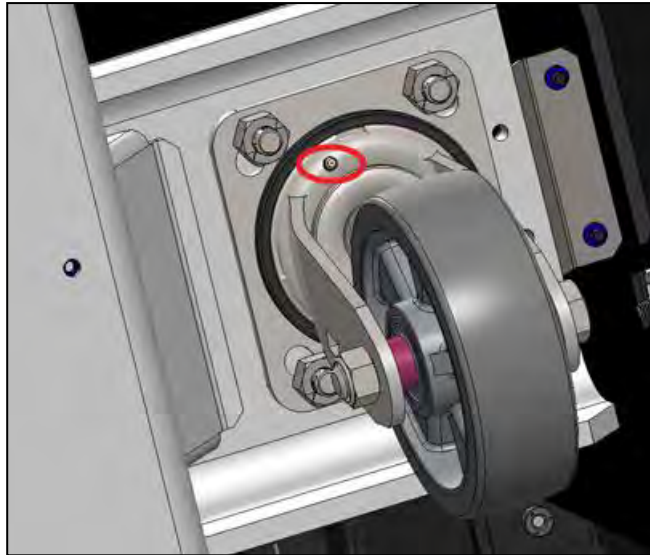

Figure 8-6 ESD Caster with Zerk Fitting Circled in Red
6. Use the grease gun to apply only two pumps of grease through the Zerk fitting in the yoke bearing, shown in Figure 8-6. Avoid applying grease to the wheel.
7. Lubricate a new O-ring with a small amount of grease and install it as shown by (B) in Figure 8-6.